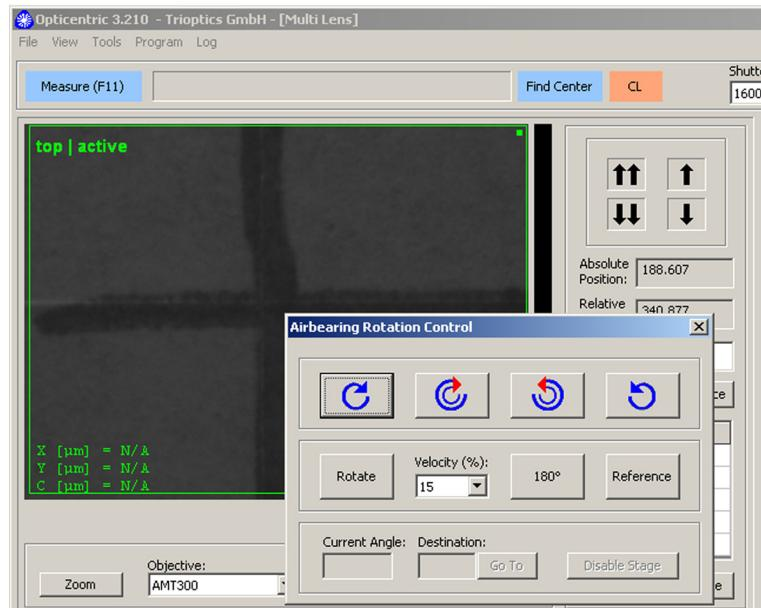

Fig.3-6
8. For easier orientation within camera image, move the "Airbearing Rotation Control" window so that the corner is located within the intersection point (see Fig.3-6).
The intersection point should still be in the same position in the camera image after that (see Fig.3-6).